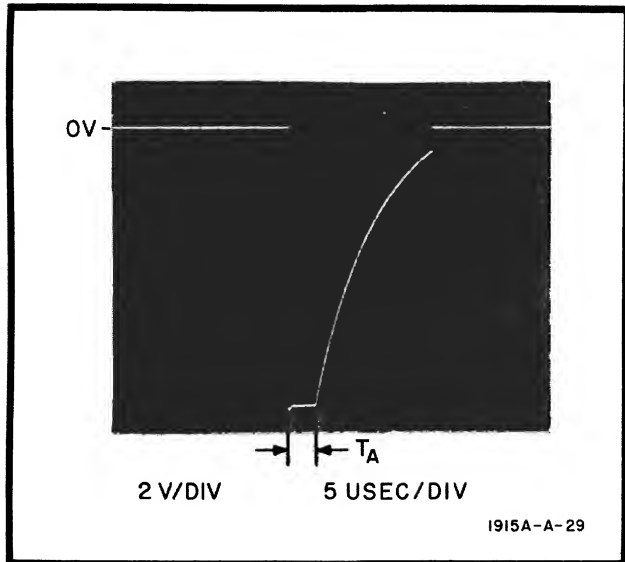

Figure 5-2. Negative Overload Test Pulse
d. Using monitor oscilloscope observe Model 1915A output. Output should be similar to that shown in Figure 5-2. Limit: T_A should be less than 5 usec.